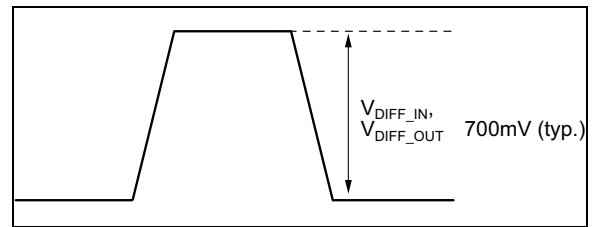

**FIGURE 4-1:** Timing Diagram.
- Note 1:** Measured with 100 mV input swing. See Figure 4-1 for definition of propagation delay parameters. High-frequency AC parameters are guaranteed by design and characterization.